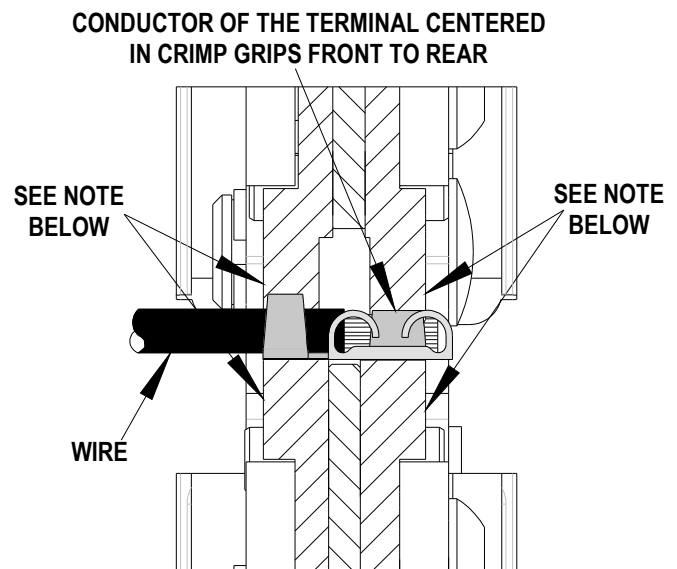

Figure 2
3. Place the terminal into the nest profile, centered on the nest as shown, with the outer edges of the crimp grips flush with each side of the crimp die and the opening in the terminal centered below the forward leg of the right punch. See Figure 2.
5. From the left side of the tool, insert the pre-stripped wire into the terminal until the conductor is centered, front to rear, in the crimp grips. See Figure 2.